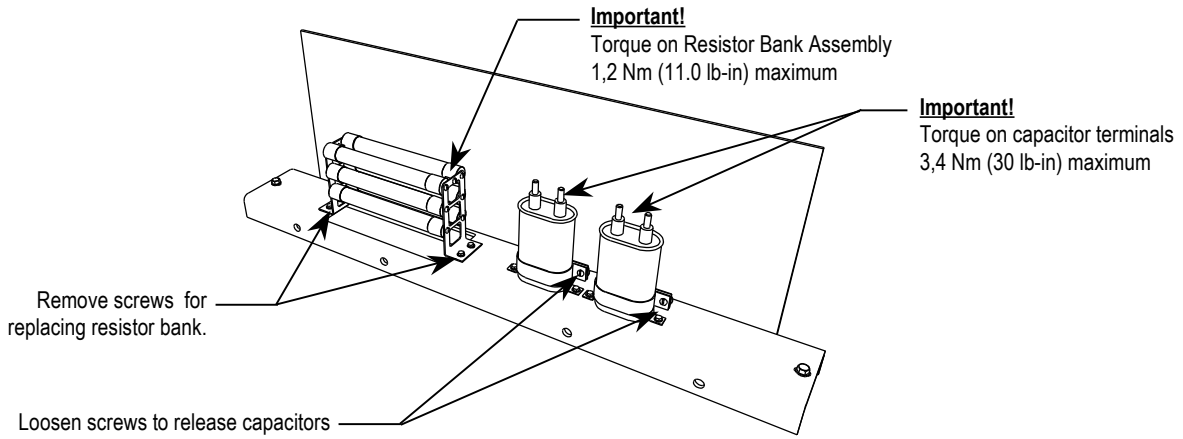

Figure 4.11 – Ground Filter Capacitor/Resistor
4. Loosen and remove mounting screws as indicated in Figure 4.11 and remove the component.